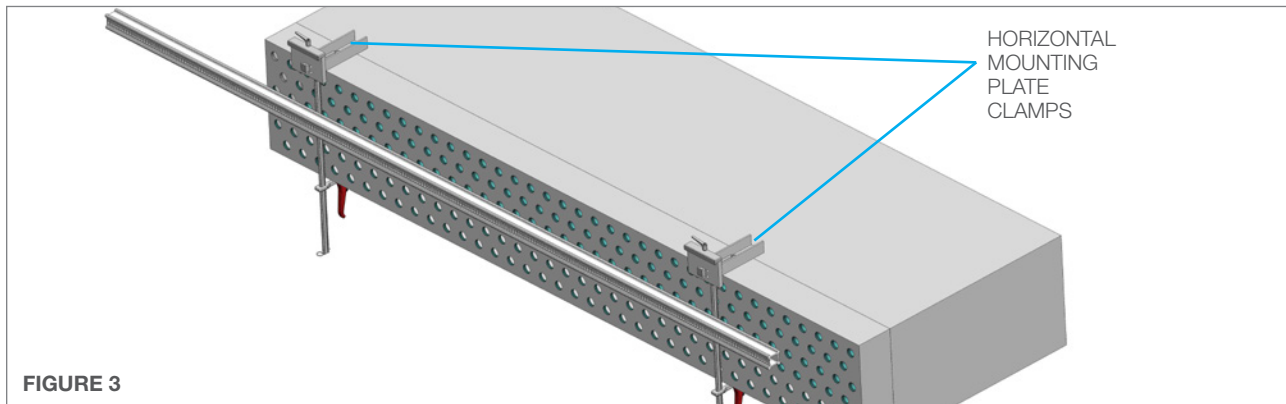

FIGURE 3
3. Loosen the Horizontal Mounting Plate Clamps and Slide the **Horizontal Rail (slots facing out)** in between the Clamp Finger and Rail Clamp. The **Horizontal Rail** should be ordered 30" (762 mm) longer than width of the tube bundle to provide complete coverage with a single installation. **(Figure 3)**